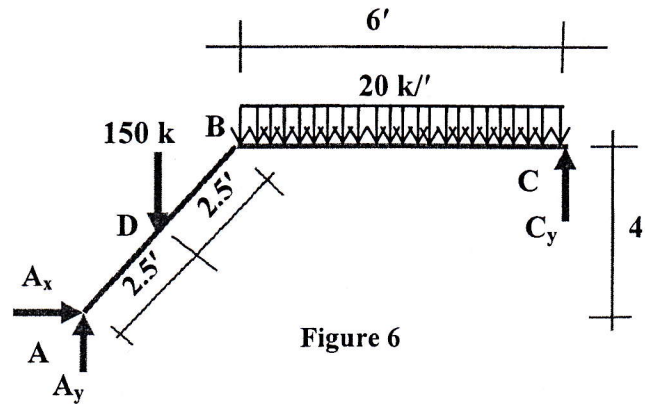

Figure 6
- [6] Determine the rotation (counter clockwise) and vertical (downward) deflection at point B of the frame ABC shown in Figure 6 by using the Virtual Work Method. The cross-section of the members are same and assume  $E = 25 \times 10^3 \text{ ksi}$ ,  $I = 800 \text{ in}^4$ .